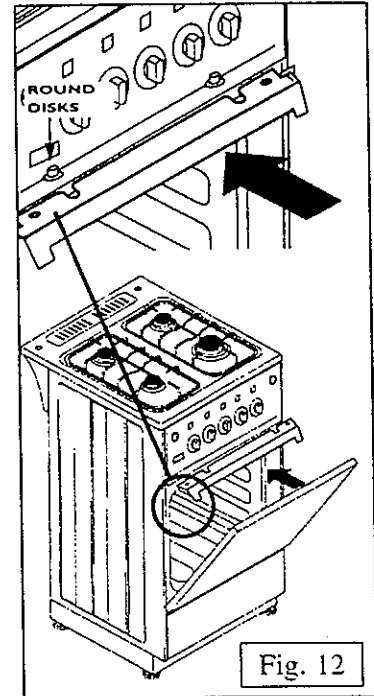

Fig. 12
- Place the heat deflector panel, as shown in figure 12.